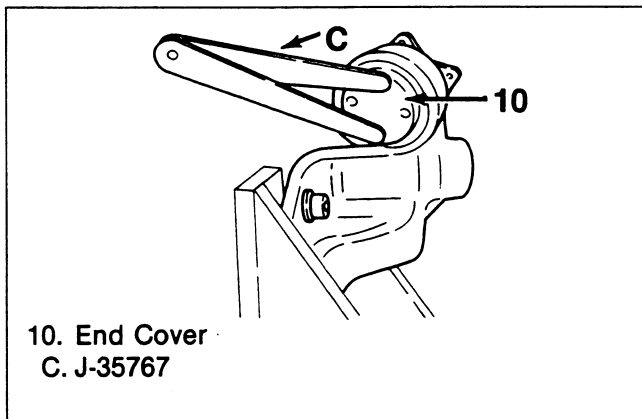

Figure 16. End Cover Installation
5. End cover (10) with spanner wrench J-35767 (C) (figure 16).